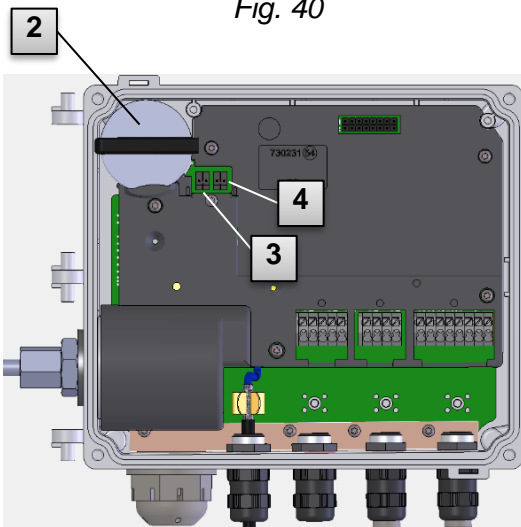

Fig. 41: EK205-M with top assemblies removed
4. Remove the basic device battery (Fig. 41: **2**) from its battery holder (Fig. 41: **3**).
5. Select the free connection on the plate for connecting the new battery (K9 or K10; Fig. 41: **4**).
6. Place the new basic device battery inside (Fig. 41: **2**) and ensure that the battery is correctly anchored in the battery holder.